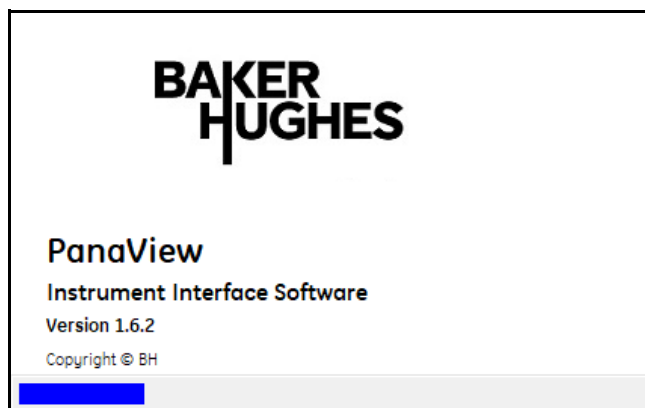

Figure 10: Initializing Screen
1. The *Version number* of your PanaView software, which may not be the same as the example in *Figure 10* below, is shown in the initial screen.